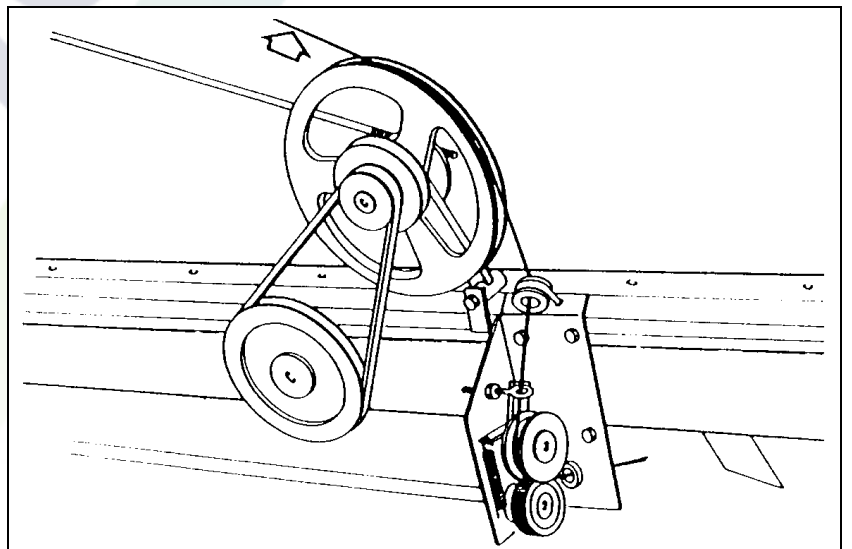

Fig. 6
6. When the binding cycle is finished (in the case of twine binding this is indicated by the stop in the rotation of the pulley in fig. 6), proceed as follows:
- c) open the rear chamber door (see p.13 item 3 and p.19);